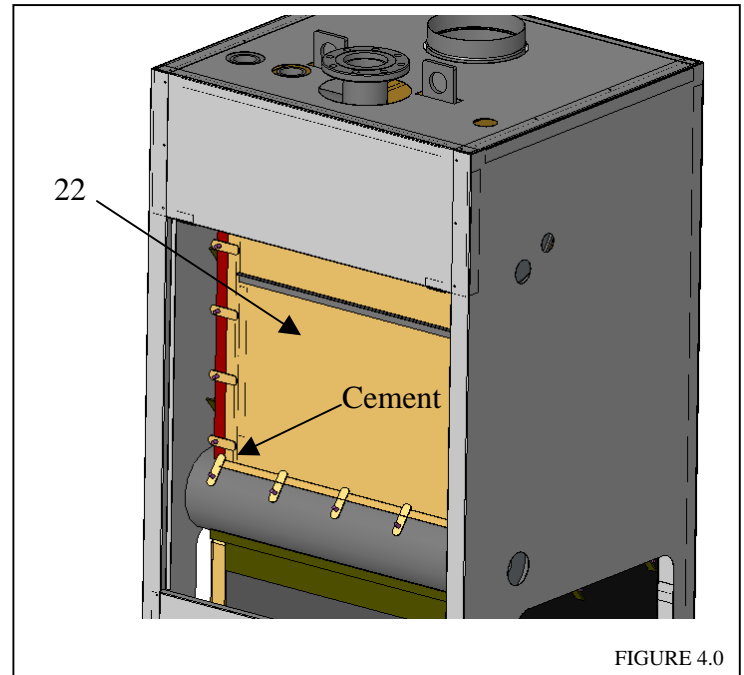

FIGURE 4.0
- 4.1 Place the tube panel (Item #22) in position making sure that the gasket material provided is in place on the top edge of the tube panel. Now, fasten the panel in place with the tube clamps and nuts. See figure 4.0.